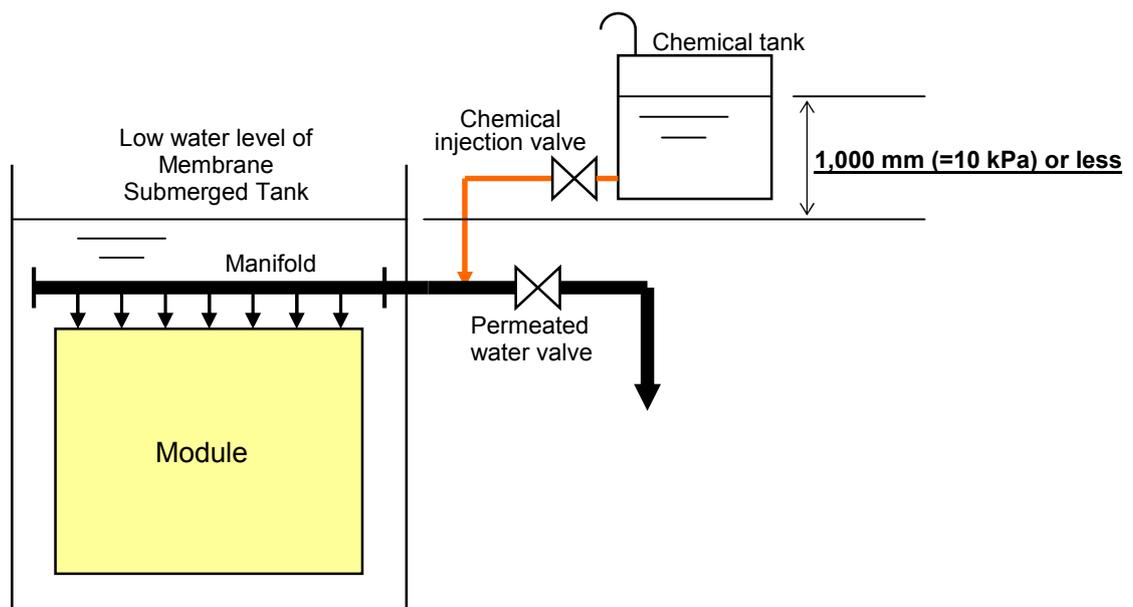

Fig.VIII-3 Chemical Cleaning with Chemical Tank Located above Membrane Submerged Tank
- b. Chemical cleaning with the chemical tank located above the membrane submerged tank (Fig.VIII-3)